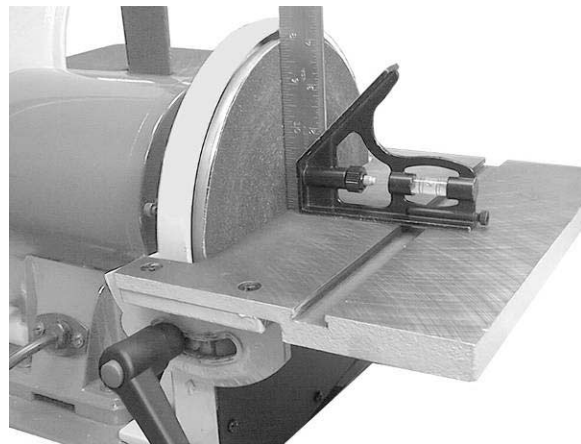

Figure 11
2. Figure 11 shows a square being used to confirm the zero, or horizontal position of the disc table.